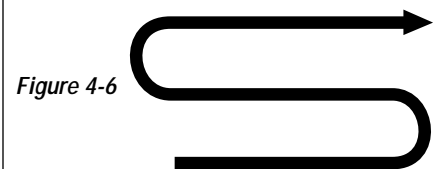

Figure 4-6
- When preparing the soil, till a fresh path on each pass rather than overlapping passes. This gives the wheels maximum traction on undisturbed soil. See Figure 4-6. Dig as deeply as possible on each pass without overloading the engine. Later passes can be overlapped. (Watering the garden area a few days prior to tilling will make tilling easier, as will letting the newly worked soil set for a day or two before making a final, deep tilling pass.)
- When preparing a seedbed, go over the same path twice in the first row, then make individual passes right next to each other (see Figure 4-6). When finished in one direction, make second passes at a right angle as shown in Figure 4-7.